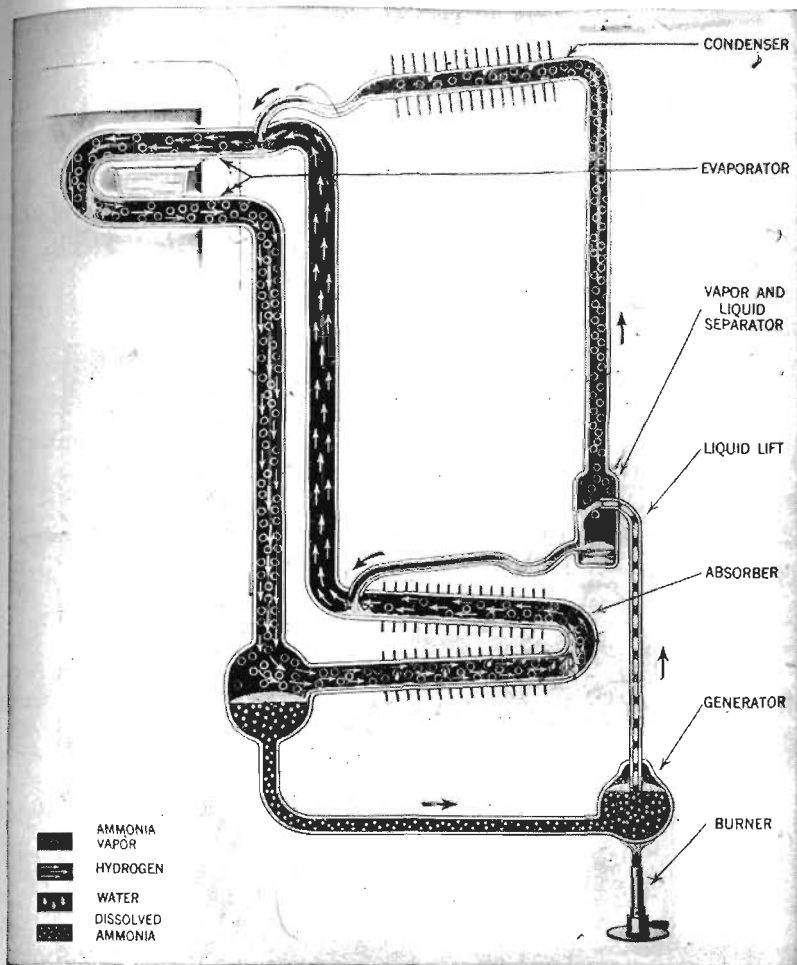

Fig. 16.5. Gas refrigeration cycle. (Copyrighted by Servel, Inc. Reproduced by permission)
**3. Gas refrigeration.** In contrast to electric refrigeration, which is a compression system, gas refrigeration is an absorption system. Since the gas refrigerator has no moving parts, it operates very quietly. The source of energy is a small gas flame. The gas may be either natural gas or some type of bottled gas. The cycle of operation is shown schematically in Figure 16.5. The refrigerant is ammonia, which is liberated from a solution of ammonia in water when the solution is heated. The ammonia is transferred from one part of the system to another through an atmosphere of hydrogen. The total pressure, which is made up of the pressure of the ammonia plus the pressure of the hydrogen, is the same in all parts of the system.